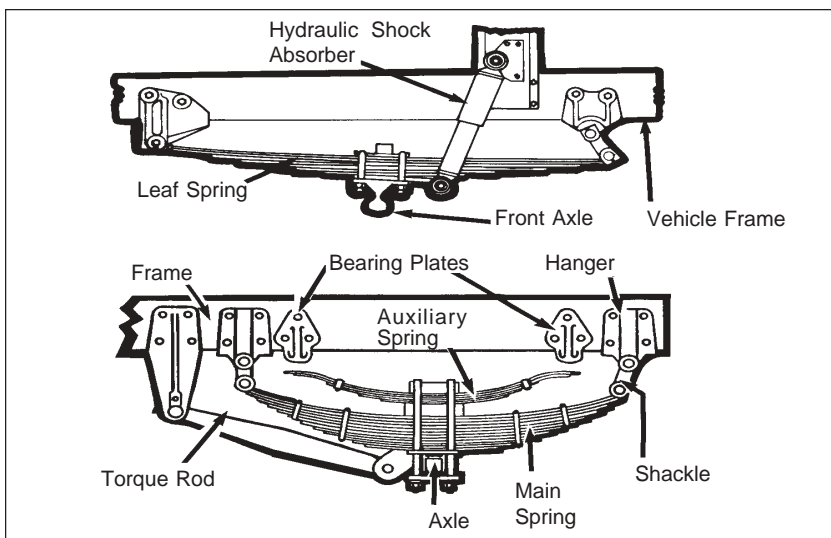

Figure 2-2
- Spring hangers (Figure 2-2) that allow movement of axle from proper position.
- Torque rod or arm, u-bolts, spring hangers or other axle positioning parts that are cracked, damaged, or missing (Figure 2-2).